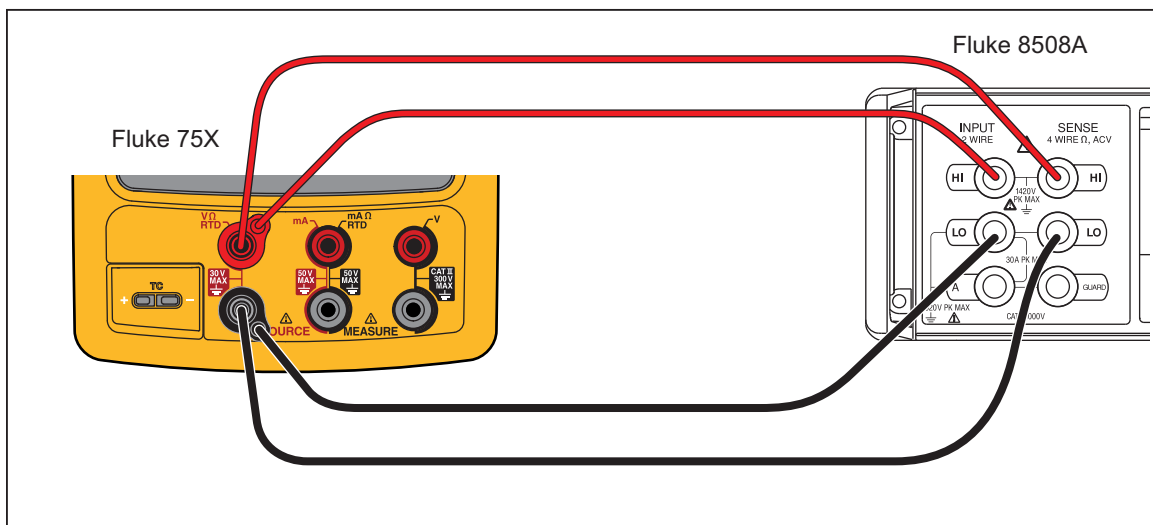

Figure 8. Resistance Source Verification Connections
1. Connect the UUT to the 8508A as shown in Figure 8. Use a four-wire connection transitioning to two wires at the UUT.